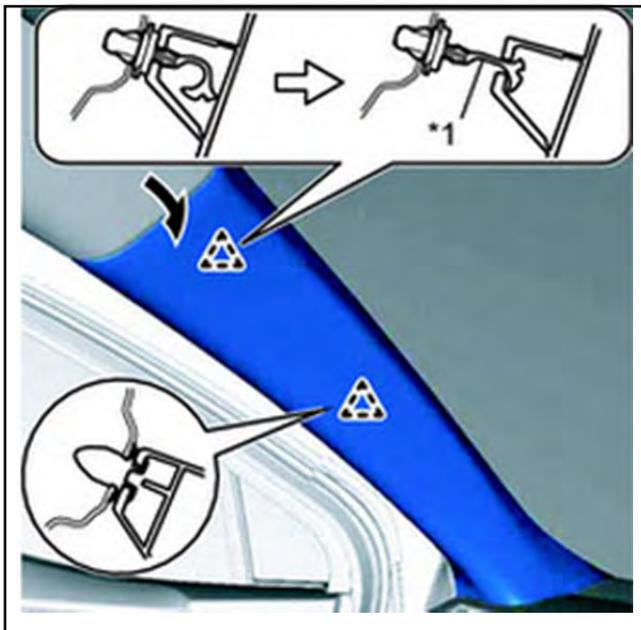

Figure 5
5. Pull the upper part of the garnish toward the inside of the cabin and disengage the garnish from the base of the 2 clips. See figure 5.